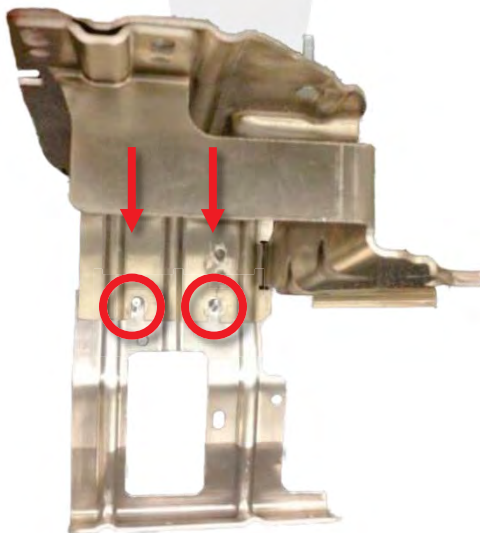

Figure 20 (Components removed for clarity)
28. Tighten the 2 nuts that secure the upper bracket to the lower bracket (torque 6 Nm) (Figure 20).